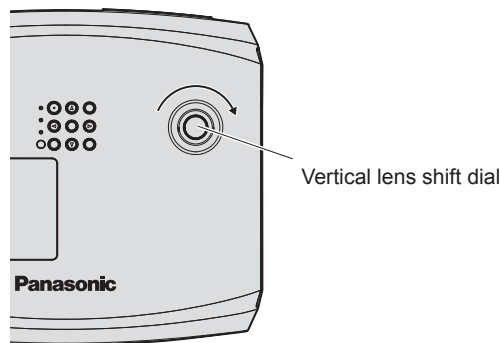

Fig. 2
3) Adjust the vertical shift. (Fig. 2)